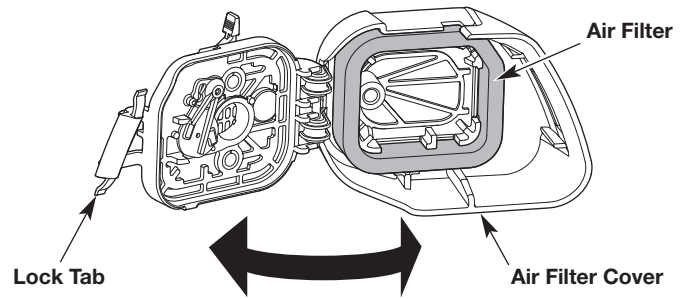

Fig. 19
1. Open the air filter cover: press in the lock tab and swing the air filter cover to the right (Fig. 19).
2. Remove the air filter from inside the air filter cover (Fig. 19).
6. Reinstall the air filter inside the air filter cover (Fig. 19).
7. Close the air filter cover: swing the air filter cover to the left and press it closed until the lock tab snaps into place (Fig. 19).